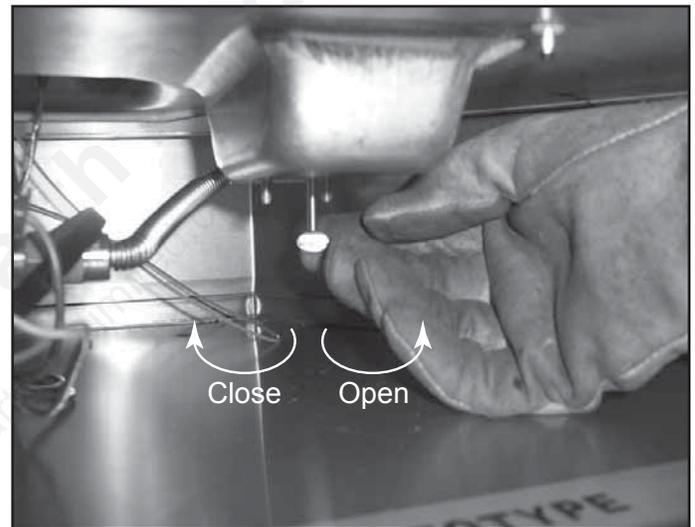

Figure 15.12 Adjusting Air Shutter
- Adjust air shutter for longer vertical runs. See Figure 15.12.